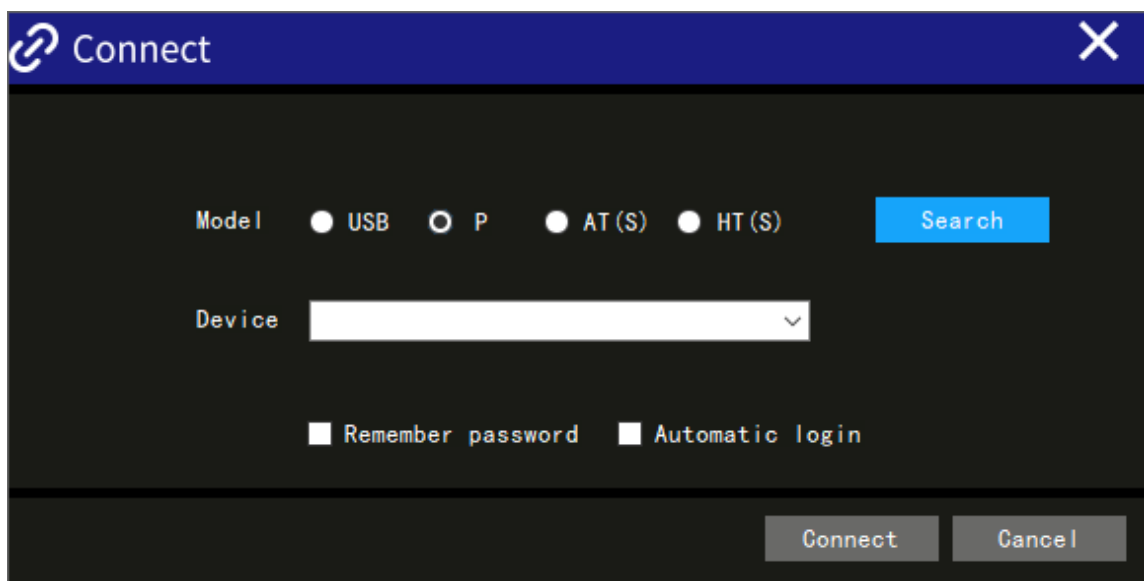

Figure 1.3 The system software connection interface
2. In the connection setting interface as shown in figure 1.2, click the connection button  and the connection interface will pop up as shown in figure 1.3.